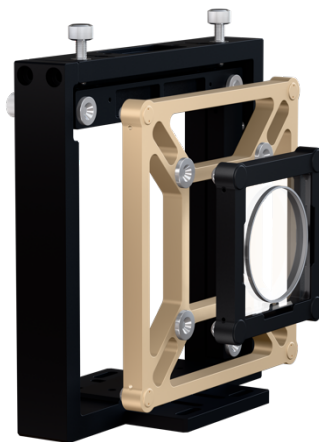

Figure 2: 2&3 inch cylinder CGH mounted on frame
2. We have four specifications of products (2 inch, 3 inch, 4 inch, 6 inch), Different accessories are needed according to different specifications. A six-degree frame and a transfer frame are necessary for 2 inch and 3 inch cylinder nulls. Figure 2 shows the mounted schematic diagram: